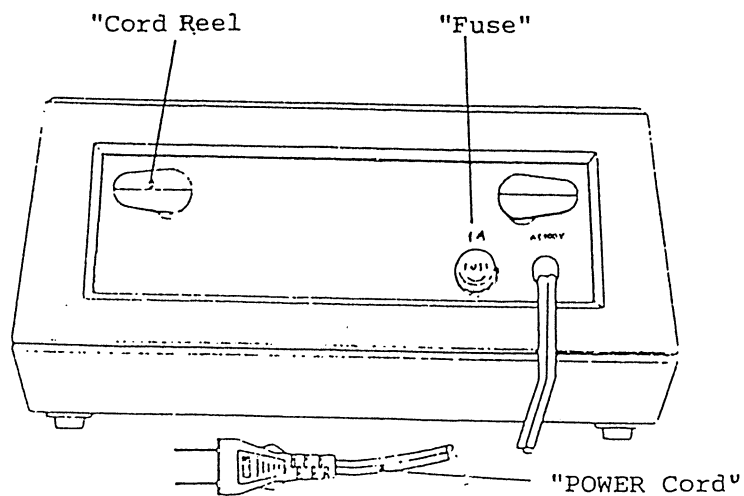

Fig. 3 Rear Panel
2) Rear panel (Refer to Fig.3)